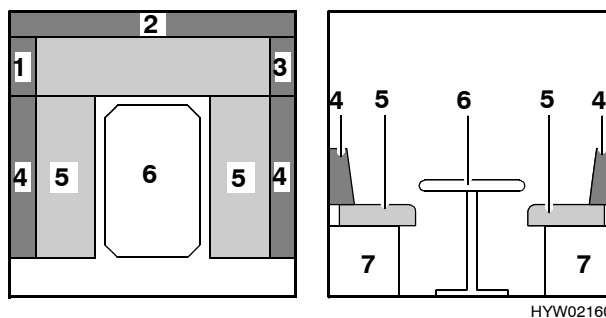

Fig. 88 Prior to conversion
- Lay the back cushions (Fig. 88,1), (Fig. 88,2) and (Fig. 88,3) underneath the table.